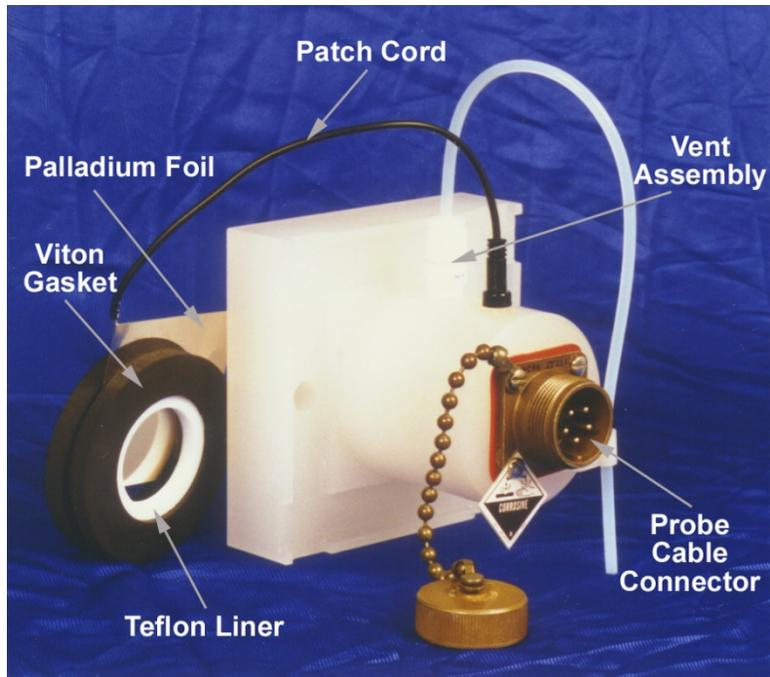

Figure 8. Hydrogen Patch Probe Mounting Assembly
5. Gently bend the palladium foil to the approximate curvature of the pipe or vessel. Place the foil over the wax, positioning the soldered wire/foil joint at the top so that it faces away from the wax (see Figure 8).
6. Place the Teflon® liner inside the Viton® gasket (see Figure 8).
7. Place the probe adapter inside the main body of the probe (see Figure 8).
20. Connect the female end of the probe cable to the HPP's probe connector (see Figure 8). The HPP is now operational.